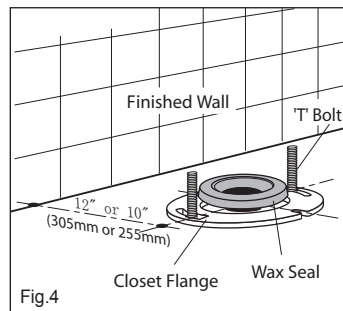

Fig.4
2. Position wax seal and offset adaptor onto "T" bolts as detailed in Fig. 4 and 5, ensuring that the offset adaptor is positioned for a 10" (255mm) or 12" (305mm) rough in as detailed in Fig.1.